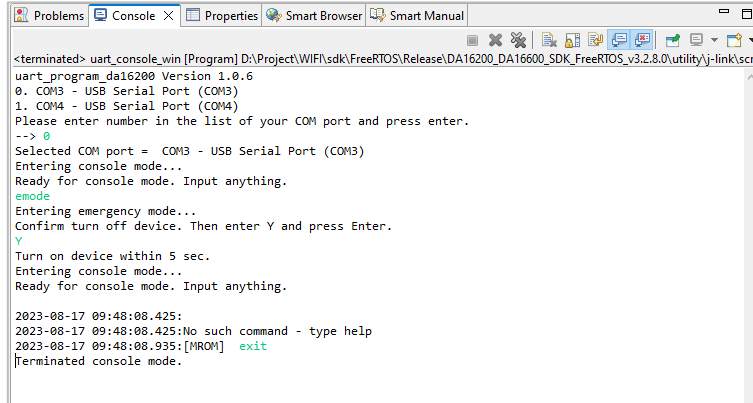

Figure 52. Emergency mode for programming firmware image
2. Or, program firmware image over serial interface (See Figure 52):